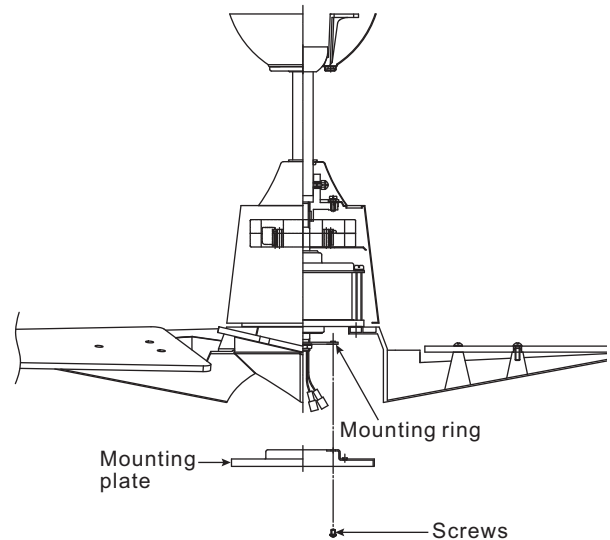

Figure 13
Step 2. Place the key holes on the mounting plate over the 2 screws previously loosened from the mounting ring, turn mounting plate until it locks in place at the narrow section of the key holes. Secure by tightening the 2 screws previously loosened and the one previously removed. (Fig. 13)